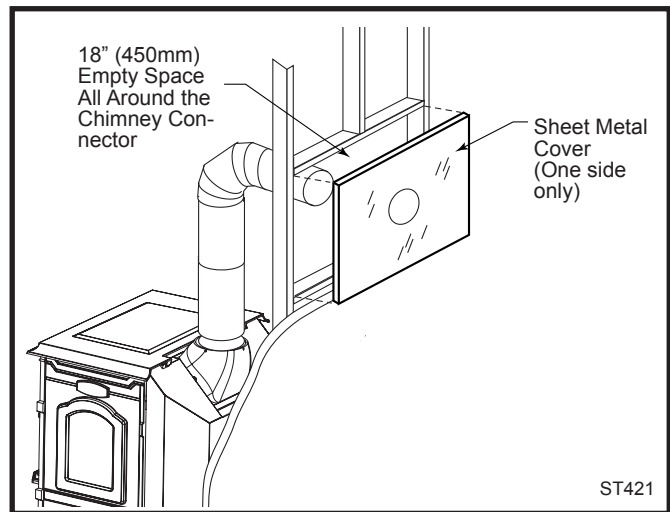

Fig. 11 Hollow wall pass-through.
**In Canada:** The Canadian Standards Association has established different guidelines. Figure 11 shows one method, in which all combustible material in the wall is cut away to provide the required 18" (450 mm) clearance for the connector. The resulting space must remain empty.